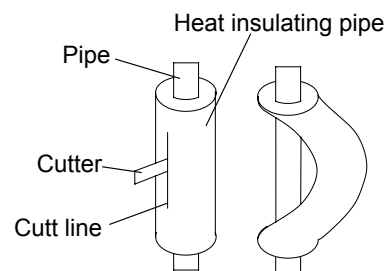

Fig.9
(4). When bending the pipe, do not bend it as is. The pipe will be collapsed. In this case, cut the heat insulating pipe with a sharp cutter as shown in Fig.9, and bend it after exposing the pipe. After bending the pipe as you want, be sure to put the heat insulating pipe back on the pipe, and secure it with tape.